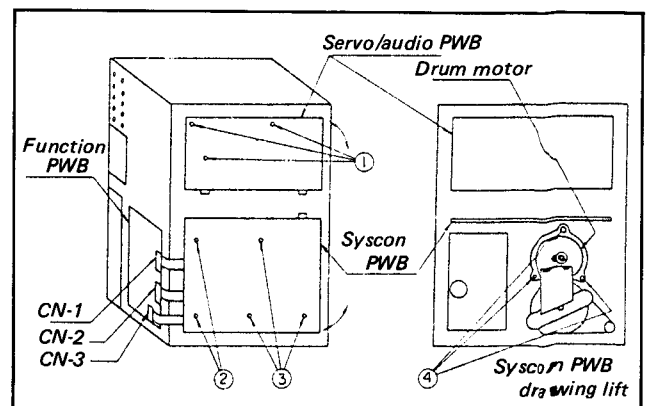

Fig. 3-1-1.
- (1) Remove the top cover, button plate, front panel assembly, and video PWB setscrews. See Fig. 3-1-1.
- (2) Put the equipment in a horizontal state and remove three screws ①. Then extract the connectors CN-1 and CN-2 with the servo/audio PWB turned toward you. Then reset the servo/audio PWB to the home position. Next, extract CN-1, 2, and ③ of the function PWB, remove two screws 2 and three screws ③. Now lift the system control PWB and remove three drum setscrews ④.